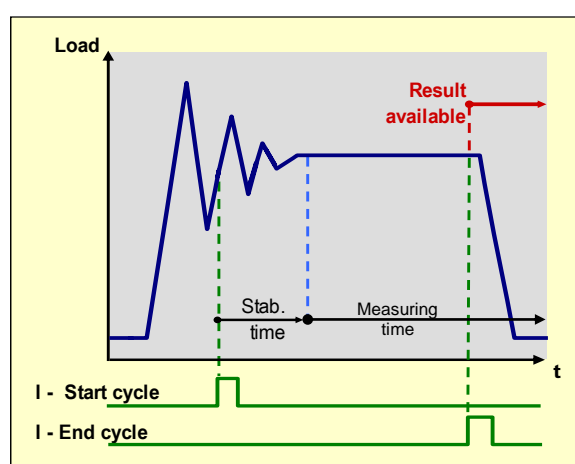

Fig. 7
- a duration prior to an edge on an input assigned to '*stop checkweigher cycle*' (Fig.7).